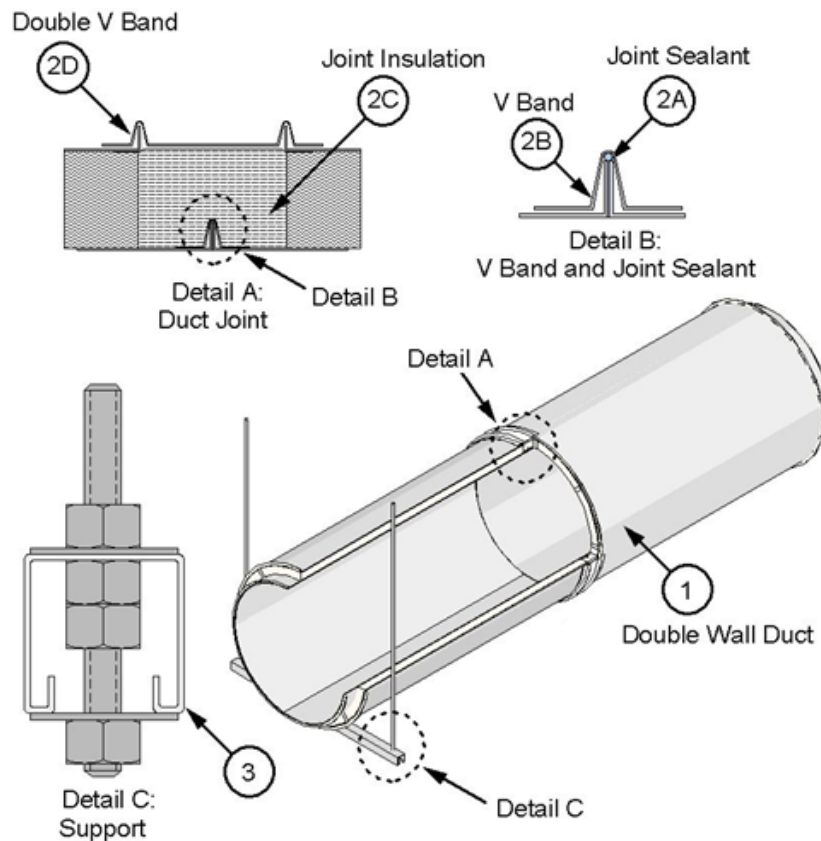

Figure 1. Double Wall Duct and Horizontal Support
B. **V BAND** – Use the supplied V band (see Figure 1). Place the loose V band, filled with joint sealant (Item 2A), over one of the inner duct flanges. Join to the other inner duct flange with the continuous bead of joint sealant (Item 2A) and rotate slightly to ensure complete coverage of joint sealant (Item 2A) on flanges. Ensure that the flanges are located within the V band and that the V band hardware is not at the bottom side of a horizontal duct. Tap the V band while tightening the integral 1/4-20
- D. **DOUBLE V BAND** – Use the supplied double V band (see Figure 1). Place double V band with outer shell flanges seated in the V band; tighten integral 1/4-20 hardware to 40-60 in.lbs.
- A. **HORIZONTAL SUPPORTS** – Support the pre-fabricated grease duct (Item 1) using min. 12 GA, 1-5/8 in. x 1-5/8 in. Unistrut® channel or 2 in. x 2 in. x 1/4 in. steel angle as the supporting cross-member and two, min. 1/2 in. diameter, threaded steel rods connected using Grade 5 hex nuts and 1/2 in. hardened washers (see Figure 1, Detail C). Connect the threaded steel rods to the bottom of the floor assembly using an attachment method designed to carry the weight of the pre-fabricated grease duct (Item 1) under a fire load equivalent to ASTM E 119 time-temperature curve for a 2 hour period. Place one threaded steel rod at each end of the supporting cross-